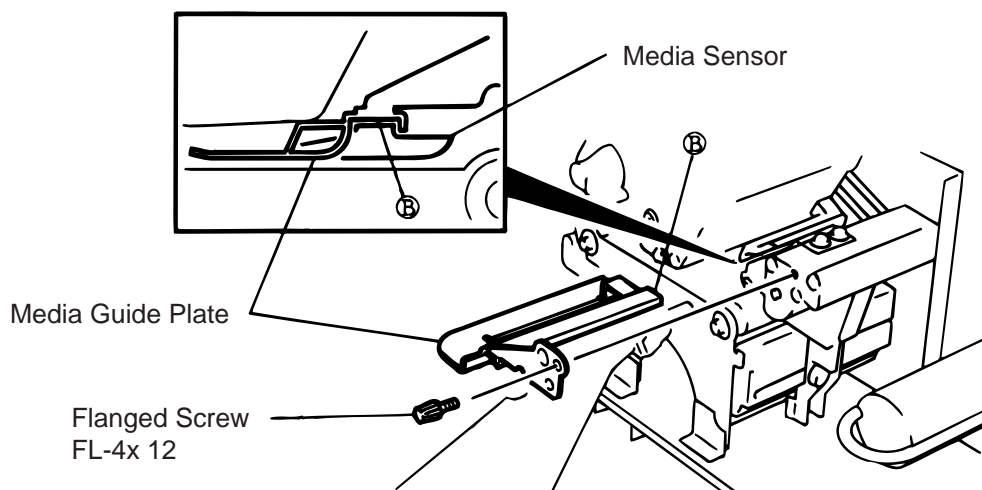

Fig. 9-2
3. Turn the head lever to position ③, then release the ribbon shaft holder plate.
4. Remove the flanged screw to detach the media guide plate. (See Fig. 9-2.)
8. Place the portion ② of the media guide plate on the media sensor. Secure the media guide plate with the flanged screw.